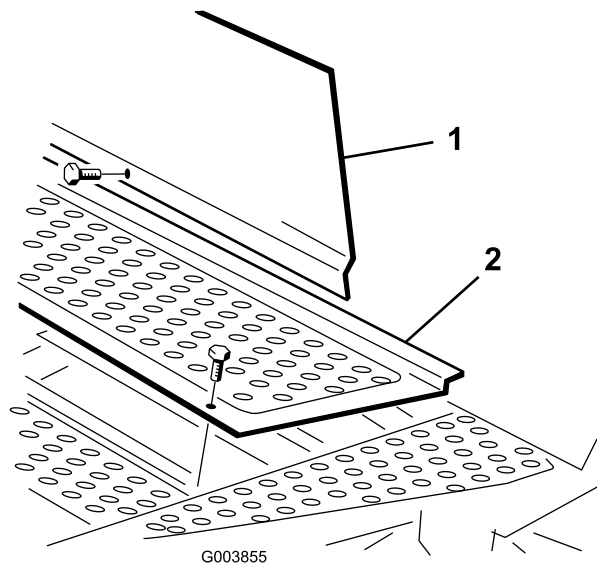

Figure 5
1. Remove the fasteners securing the left front corner of the floor panel and the left end of the access panel to the frame (Figure 5).
2. Replace the floor panel fastener with a flange-head bolt (5/16 x 5/8 inch) supplied in loose parts (Figure 5).
3. Replace the access panel fastener with a flange-head bolt (5/16 x 3/4 inch) supplied in loose parts (Figure 5).